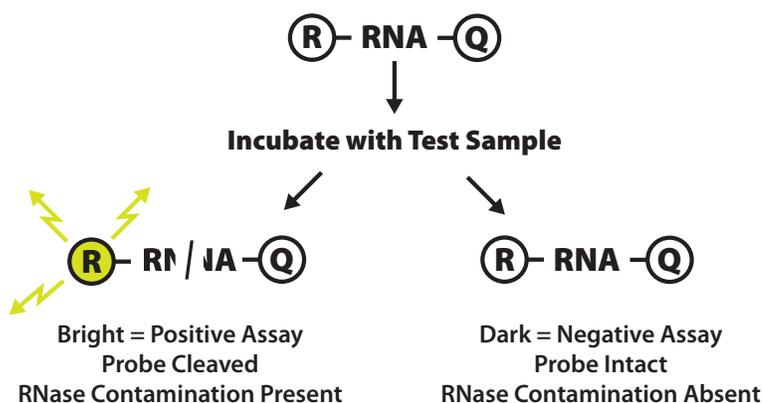

Figure 1
The RNaseAlert Substrate is a synthetic RNA oligonucleotide that has a fluorescein (R) on one end and a dark quencher (Q) on the other end. Its sequence has been carefully optimized to react with a wide variety of ribonucleases. Intact, the substrate has little or no fluorescence. When cleaved by an RNase, the substrate fluoresces green (490 nm or UV excitation, 520 nm emission) and can be detected visually or using a fluorometer (Figure 1).